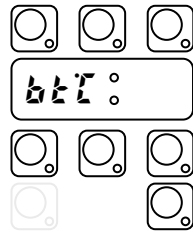

Fig. 5.2
- Press CYCLE INFINITE. The display shows alternatively the symbol *bEt* (Fig.5.2) and the corresponding value **76** (Fig.5.3);
- Press **CYCLE\_INFINITE**. The display shows alternatively the symbol (Fig.5.2) and the corresponding value (Fig.5.3);